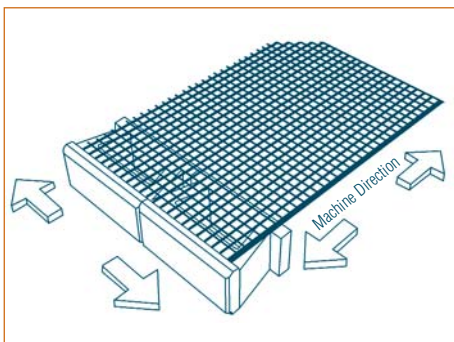

Figure 8: Determining Geogrid Direction
- Place geogrid behind the block lip with the machine direction extending back into the slope (Figure 8).